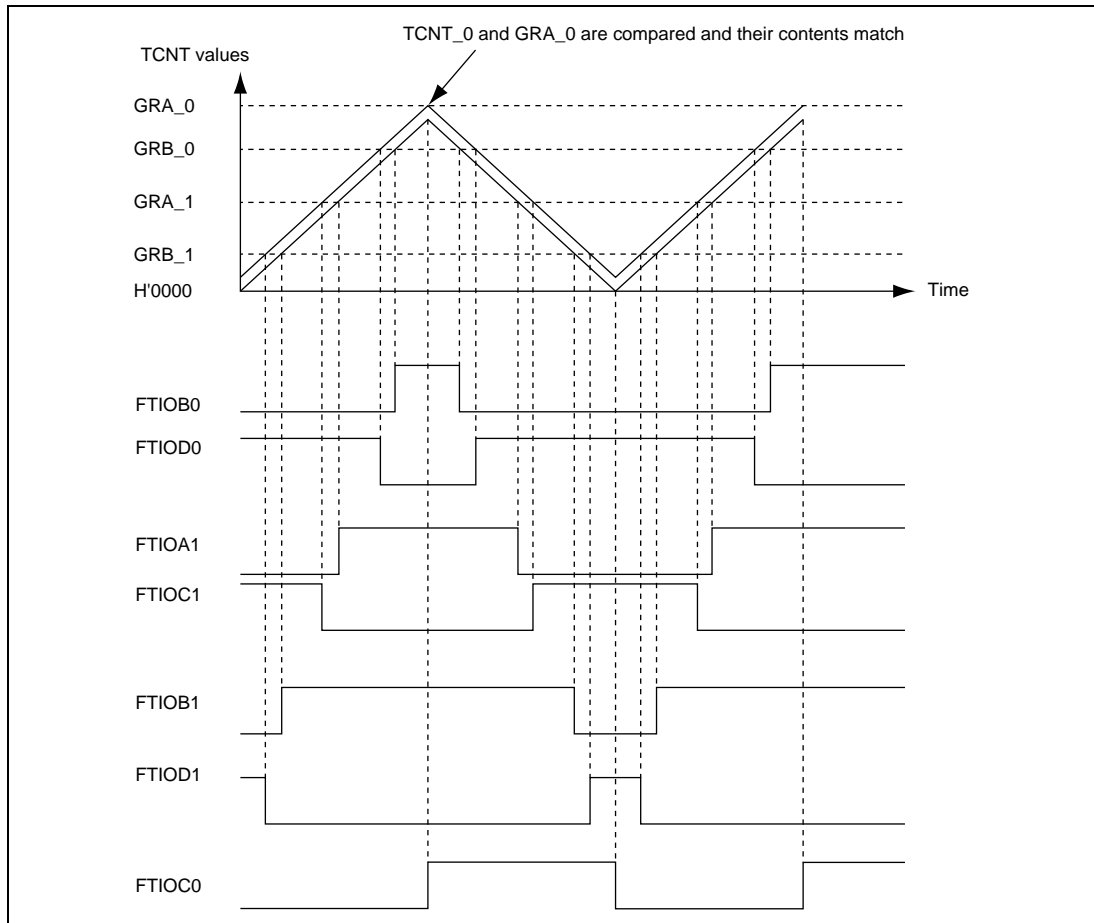

Figure 13.31 Example of Complementary PWM Mode Operation (1)
2. Examples of Complementary PWM Mode Operation: Figure 13.31 shows an example of complementary PWM mode operation. In complementary PWM mode, TCNT_0 and TCNT_1 perform an increment or decrement operation. When TCNT_0 and GRA_0 are compared and their contents match, the counter is decremented, and when TCNT_1 underflows, the counter is incremented. In GRA_0, GRA_1, and GRB_1, compare match is carried out in the order of TCNT_0 → TCNT_1 → TCNT_1 → TCNT_0 and PWM waveform is output, during one cycle of a up/down counter. In this mode, the initial setting will be TCNT_0 > TCNT_1.